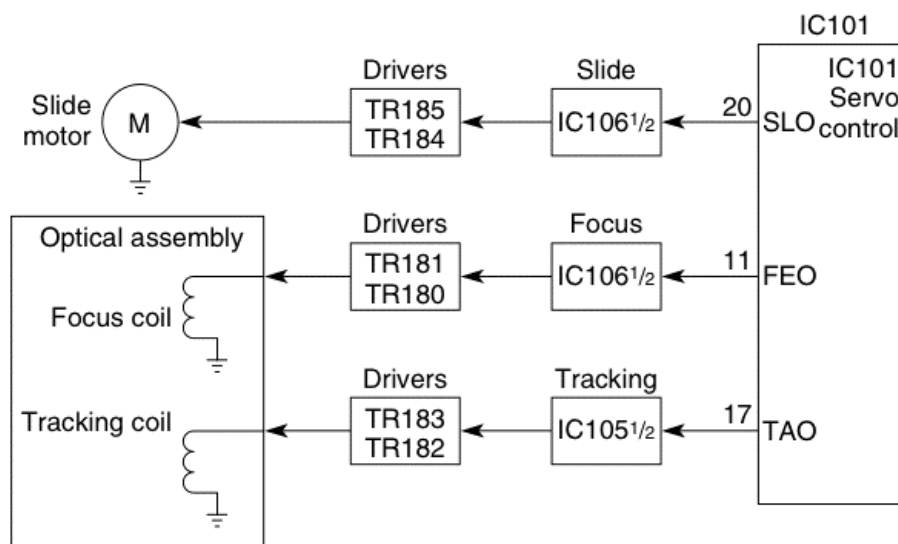

FIGURE 26-7 The servo IC controls the slide motor, focus, and tracking coils within a CD changer.
Denon DCM 560 servo circuits The RF amplifier and ALC control circuits are inside the optical laser-pickup assembly. You will find that in the most-recent CD players, the optical assembly (which includes photo-detector diodes, the laser diode and monitor diode, the focus and tracking coil, plus the RF amp IC). The tracking error (TE) signal is fed from pin 2 of optical pickup to pin 1 of servo IC101. Likewise, the focus error (FE) is at pin 3 and fed to terminal 5 of servo IC101 (Fig. 26-7).